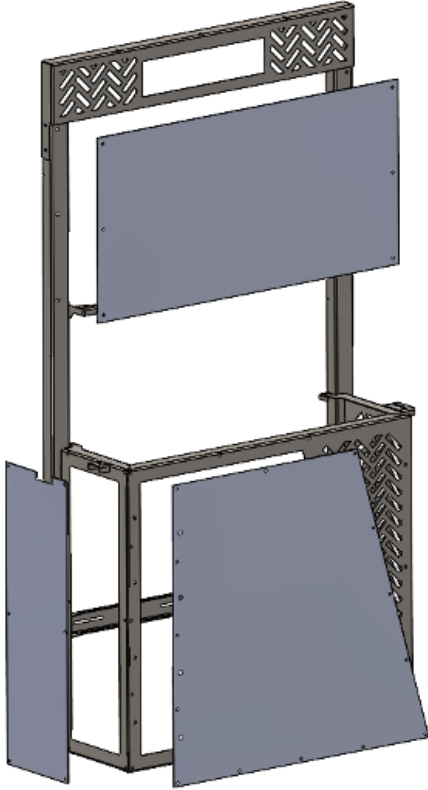

Figure 6
8. Use ¼" Stainless Steel Cap head bolts, stainless flat washers, and stainless nuts (50408-HW) to install all graphics. (Figure 6)